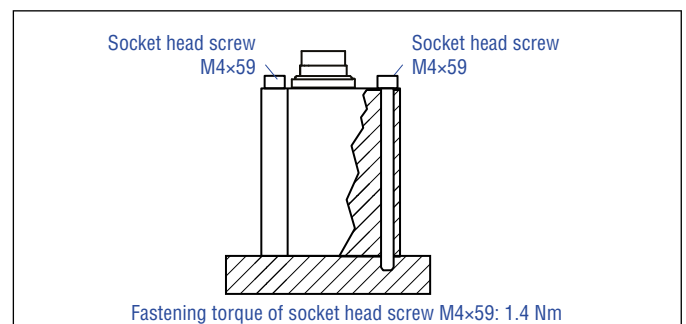

Fig. 21: Mounting with socket head screws M4×59
3. Mount the sensor electronics housing using the three M4×59 hexagon socket screws made of non-magnetic material. Tightening torque: 1.4 Nm (Fig. 21). Secure the screws before installation, e.g. with Loctite 243. Remove the three knurled nuts beforehand.
- Mount the sensor electronics housing to the sensor tube or HFP profile using three M4×59 hexagon socket screws made of non-magnetic material: Tightening torque: 1.4 Nm (Fig. 21). Secure the screws before installation, e.g. with Loctite 243. Remove the three knurled nuts beforehand.
- Mount the sensor via flange using the three M4x59 hexagon socket screws made of non-magnetic material. Tightening torque: 1.4 Nm (Fig. 21). Remove the three knurled nuts beforehand.